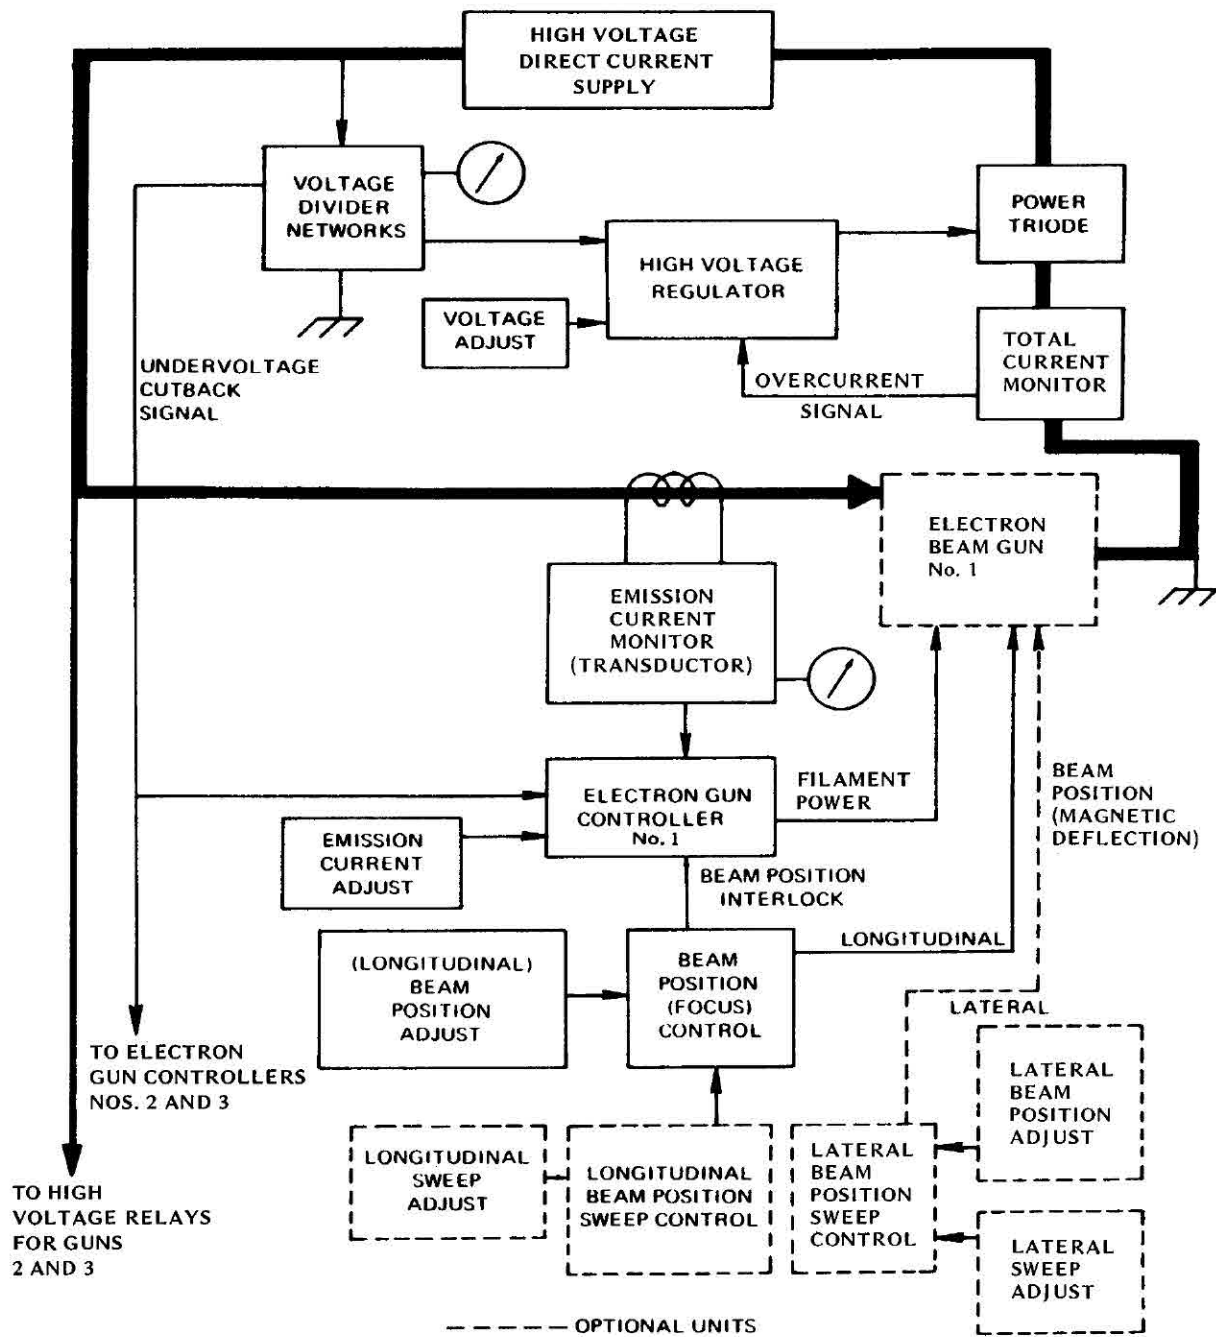

Figure 4-1. CV-14 A and B system block diagram
4.1 OVERALL SYSTEM (Figure 4-1)